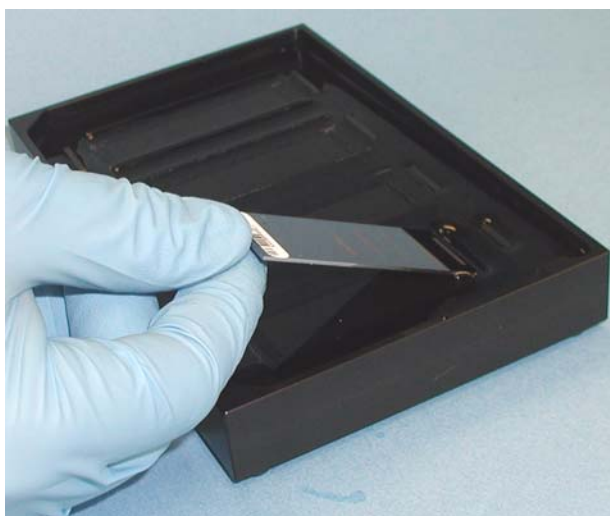

Figure 129 Placing BeadChip into Black Frame on Alignment Fixture
2. Place each BeadChip to be processed into a black frame, aligning its barcode with the ridges stamped onto the Alignment Fixture (Figure 129).